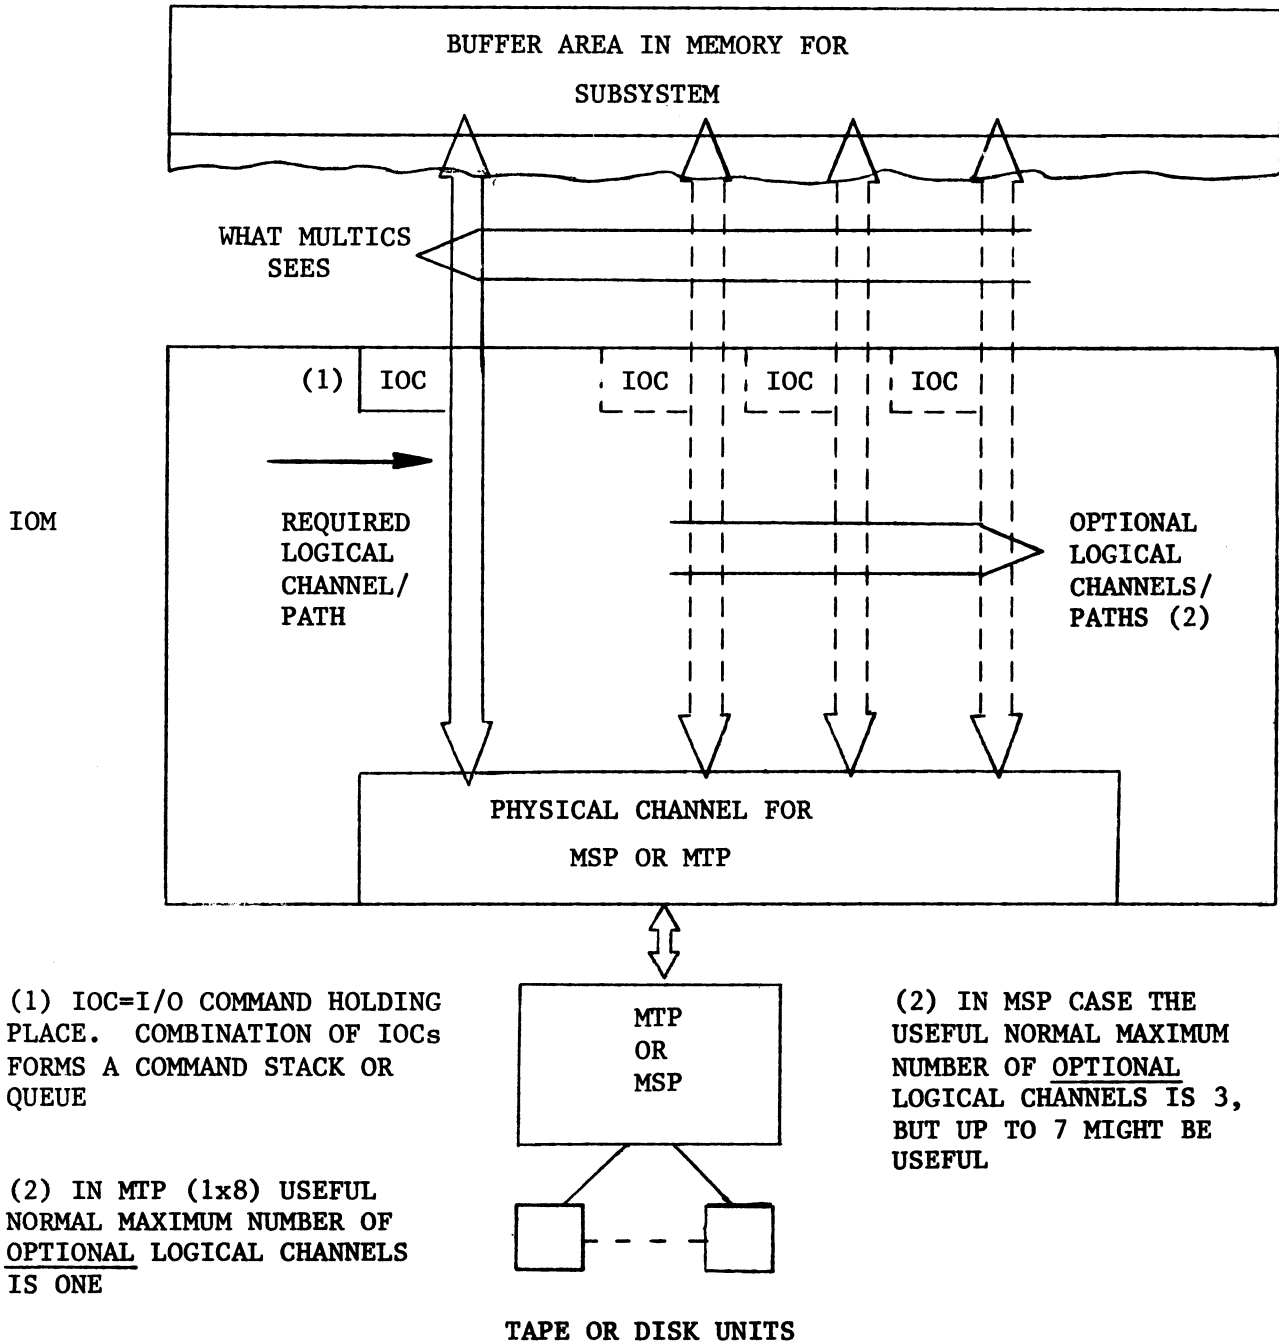

Figure 4-4. Single-Channel MTP (1x8) or Single-Channel MSP Subsystem
- a. Single-channel MTP (1x8) or single-channel MSP subsystem. (See Figure 4-4.)